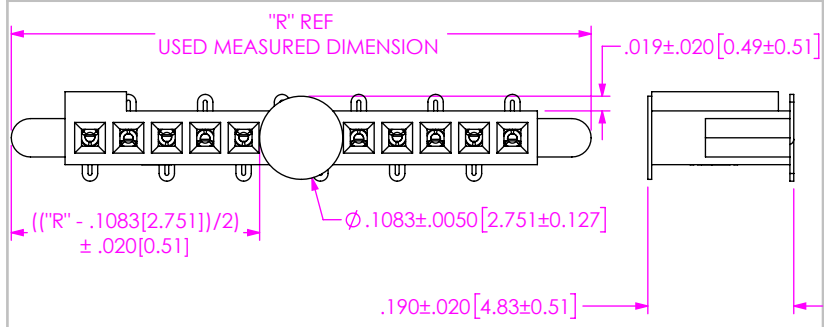

FIG 6
-K: POLYIMIDE FILM (SEE FIG 6, SHT 2)